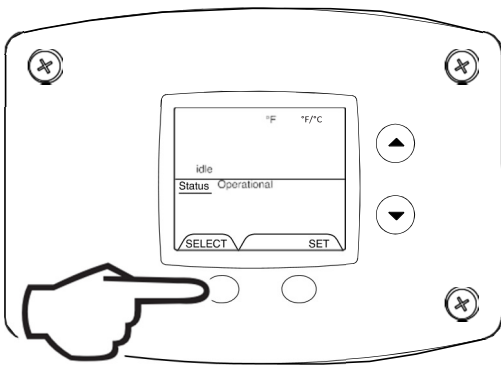

Fig. 56
1. While in 'Service Mode', press 'Select' button until '°F/°C' is shown in the upper right portion of the water heater display (Fig. 56).